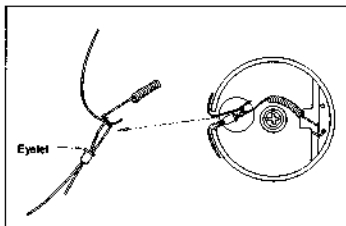

Fig. 2-9
- (g) Pull the dial cord taut and wrap 2 1/2 turns around the drive drum, starting at the rear edge. Pass the cord through the slot and attach the spring and eyelet as shown in Fig. 2-9.